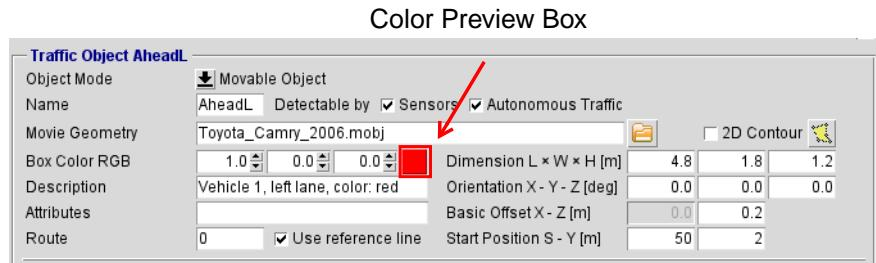

Figure 4.108: Defining the box color
- Dimension L x W x H (m)** These parameters define the overall dimensions of a traffic object as simulated in CarMaker, in the following order: length, width, height. All sizes are given in [m]. You can display the boxes by changing the view mode to *ABRAXAS* in IPGMovie (see section 'ABRAXAS' on page 402 and Figure 4.108).